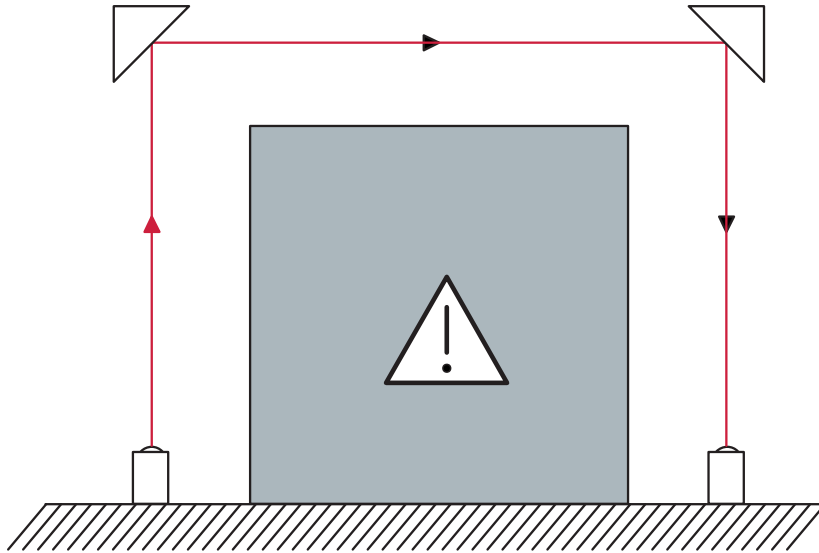

Figure 6.5: Arrangement of the Deflecting Mirrors
- Arrange the Deflecting Mirror so that the optical axis is aligned with the center of the mirror (see figure 6.5).